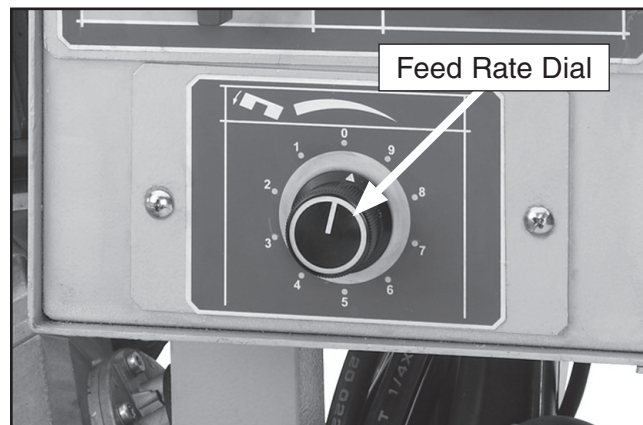

Figure 35. Feed rate dial.
2. Set the feed rate dial () to the desired feed rate; 0 (fully clockwise) is the slowest and 9 (fully counterclockwise) is the fastest (**Figure 35**).